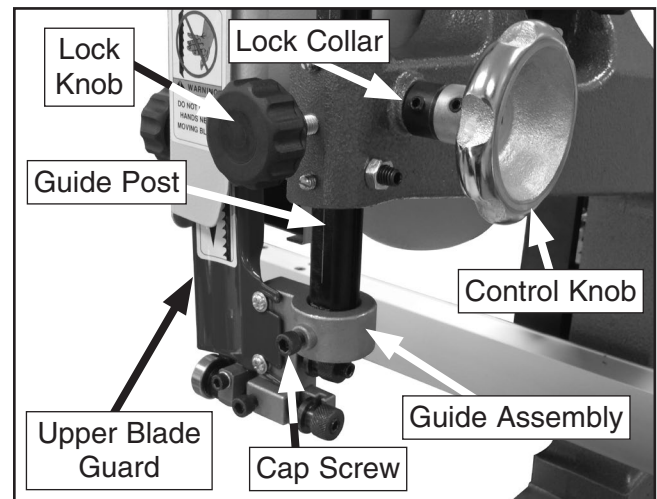

Figure 4. Upper blade guard and nearby components/controls.
8. Raise the upper guide assembly all the way up, then tighten the lock knob (**Figure 4**).
9. Loosen the cap screw (**Figure 4**), and disconnect the guide assembly from the guide post, then remove the guide assembly and upper blade guard.
10. Remove the guide post control knob and lock collar (**Figure 4**) from the pinion gear shaft.